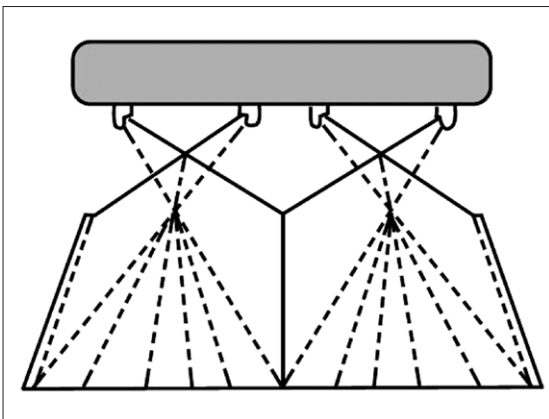

Figure 9. Nozzle Spray Pattern
- Start the pump. Check to see if the nozzles are all spraying consistently and producing the spray pattern shown in **Figure 9**.